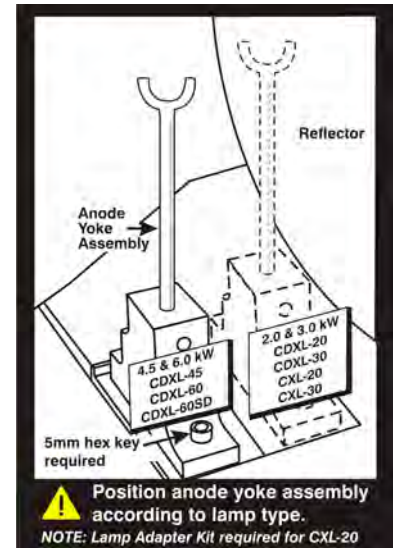

Figure 5-57 Anode Yoke
- b. If you are installing a different type of lamp from the original, ensure the correct position of the anode yoke. (Figure 5-57)